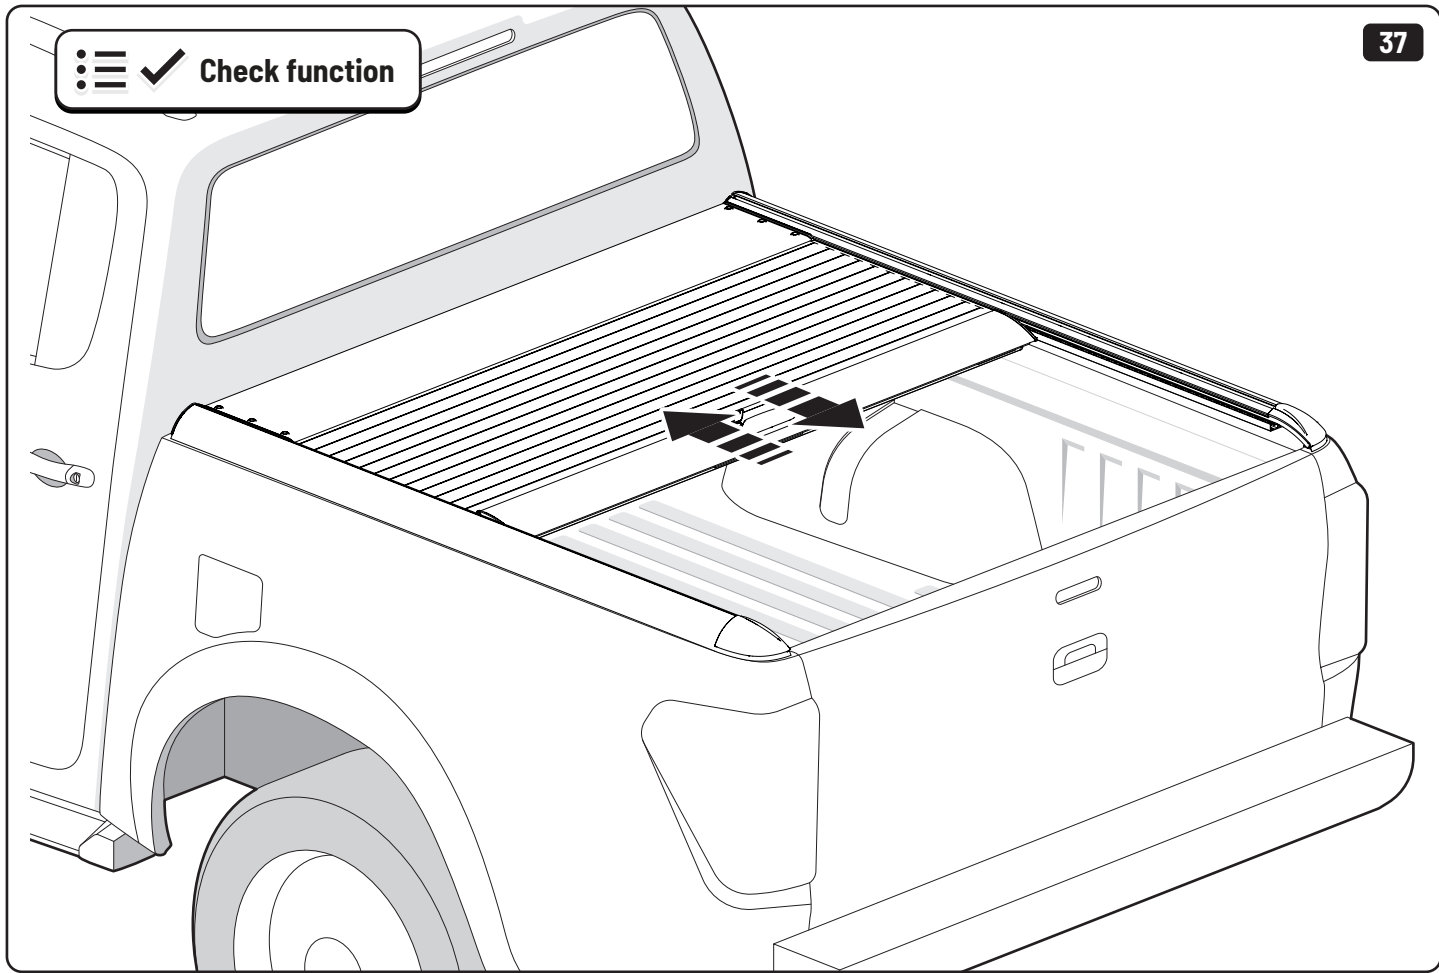

Fig. 1
- The roll cover is not designed for loading although it can support normal snow loads. No part of it can support any load from cargo or persons and the product might be damaged if somebody stands on it. (Fig. 1)